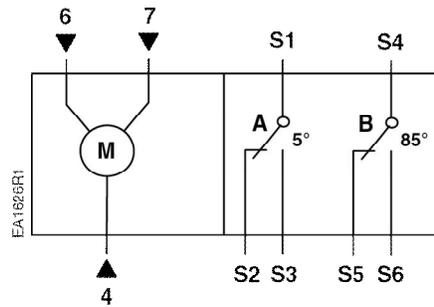

Figure 8.
1. Connect all wires per Figure 8.